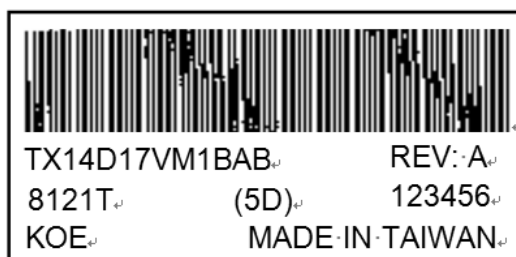

Fig 13.3
- 1) The lot mark is showing in Fig.13.3. First 4 digits are used to represent production lot, T represented made in Taiwan, and the last 5 digits are the serial number.
- 4) The location of the lot mark is on the back of the display shown in Fig. 13.3.